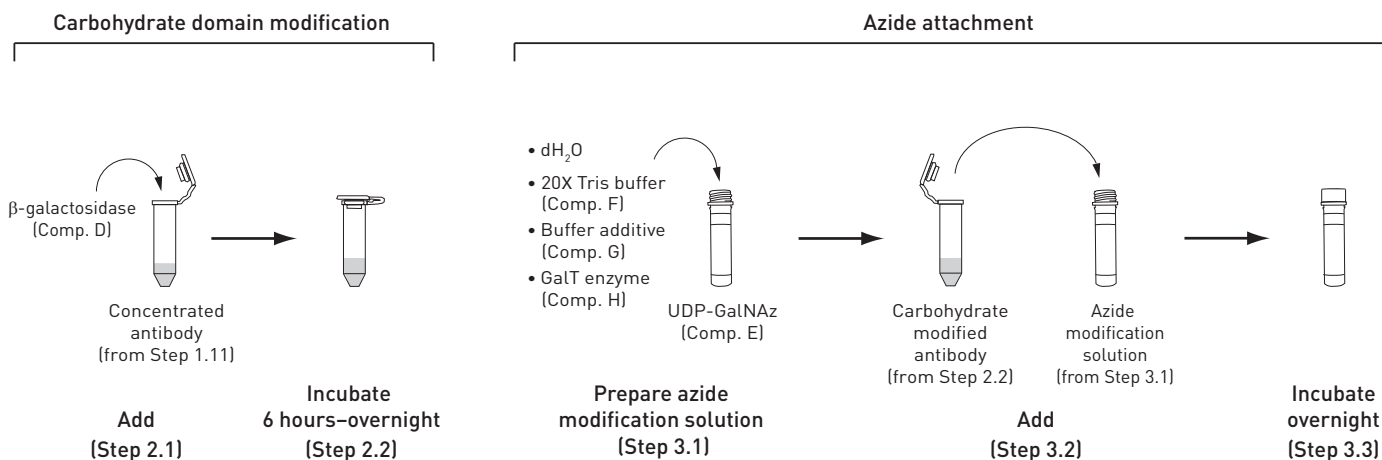

Figure 3 Modification of antibody carbohydrate domain and azide attachment
- 2.1 Add 20  $\mu$ L of  $\beta$ -galactosidase (Component D) to the antibody collected in Step 1.11, as shown in Figure 3.
- 3.1 Prepare the azide modification solution by adding the following components to the tube containing UDP-GalNAz (Component E), as shown in Figure 3 (page 5):